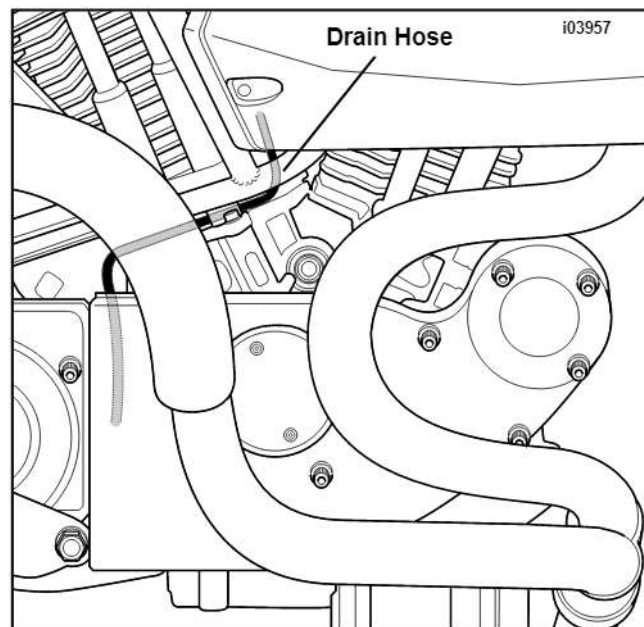

Figure 12. Routing Drain Hose (Buell)
10. See Figure 12. Route drain hose downward from drain fitting and continue towards rear wheel through the space between the engine rear cylinder and both rear cylinder push rod covers. Continue route downward between gearcase cover and engine crankcase.